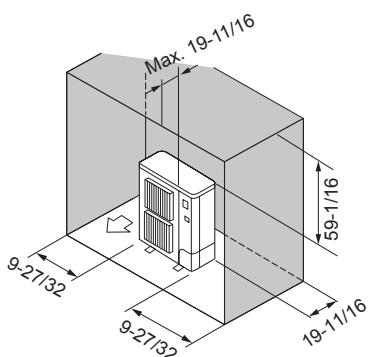

Fig. 2-10
- ⑥ Obstacles at rear, sides, and above (Fig. 2-10)
- ⑦ Obstacles at rear, sides, and above (Fig. 2-10)